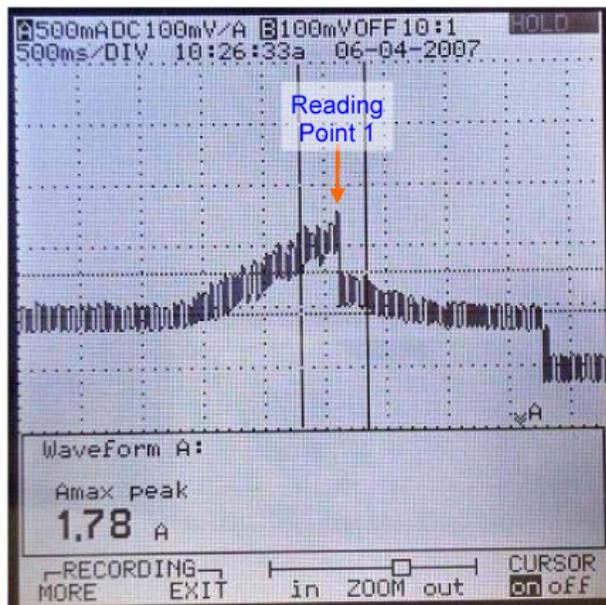

Figure 14. Maximum Current Value of Reading Point 1.
7.3 Use LEFT CURSOR and RIGHT CURSOR buttons to position cursors as shown in Figure 14.
- 7.5 Use LEFT CURSOR and RIGHT CURSOR buttons to position cursors as shown in Figure 14.